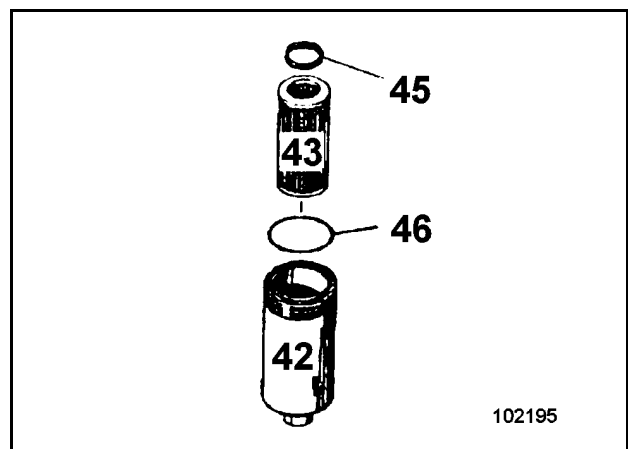

Fig. 3-125:
- Unscrew filter housing (42, Fig. 3-125:).
- Withdraw filter element (43) from housing (42).
- Insert filter element into housing (42) and attach to the filter head with a new, slightly oiled sealing ring (46).